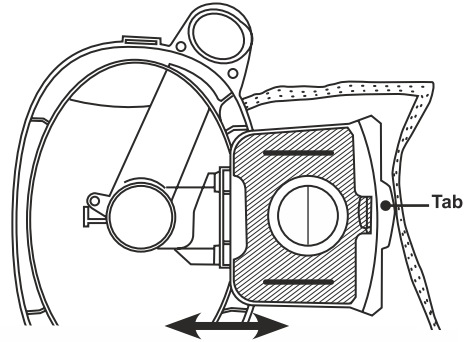

Fig 2
3. Pull the tab on the Dust Bag holder out slightly and flip upwards. (Fig.2)
4. Holding the Dust Bag in your hand, slice it firmly between the slots in the bag holder. (Fig.2)